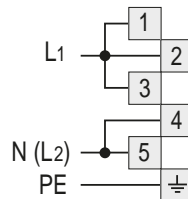

Fig. 3.3
- Position the U bolts “F” onto terminal board “G” (fig. 3.2) according to the diagrams in fig. 3.3.
- Connect the phase, neutral and earth wires to terminal board “G” according to the diagrams in fig. 3.3.